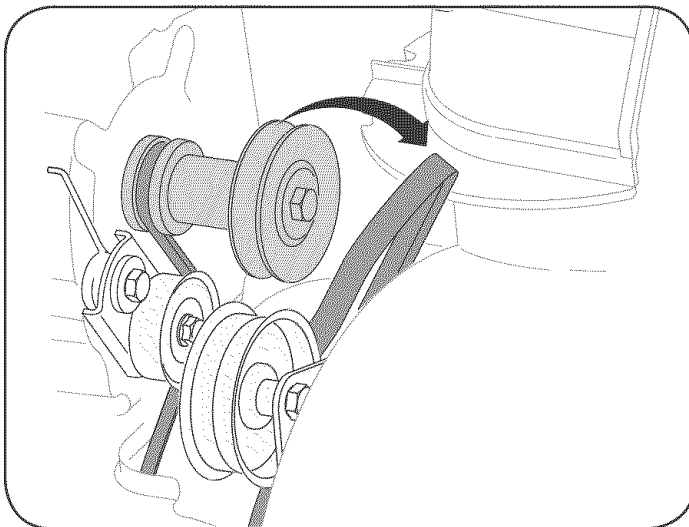

Figure 20
1. Roll auger belt off the pulley as shown in Figure 20.